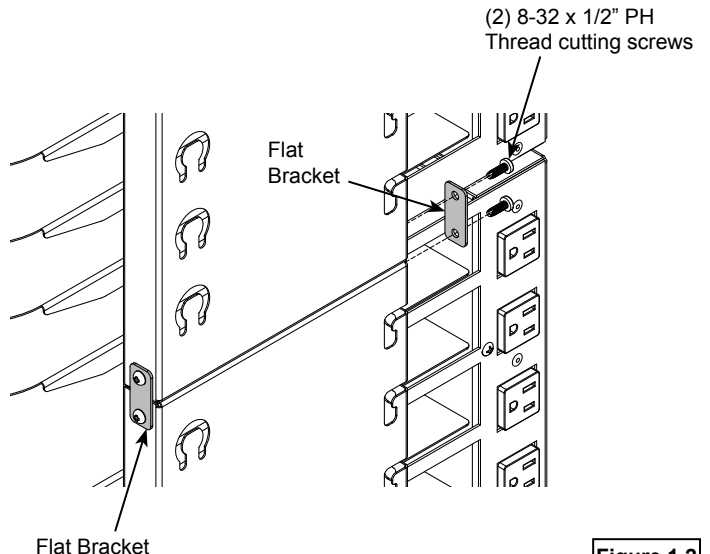

Figure 1.2
2. Connect the two units together by installing the (4) flat brackets with 8-32 screws. **Figure 1.2.**